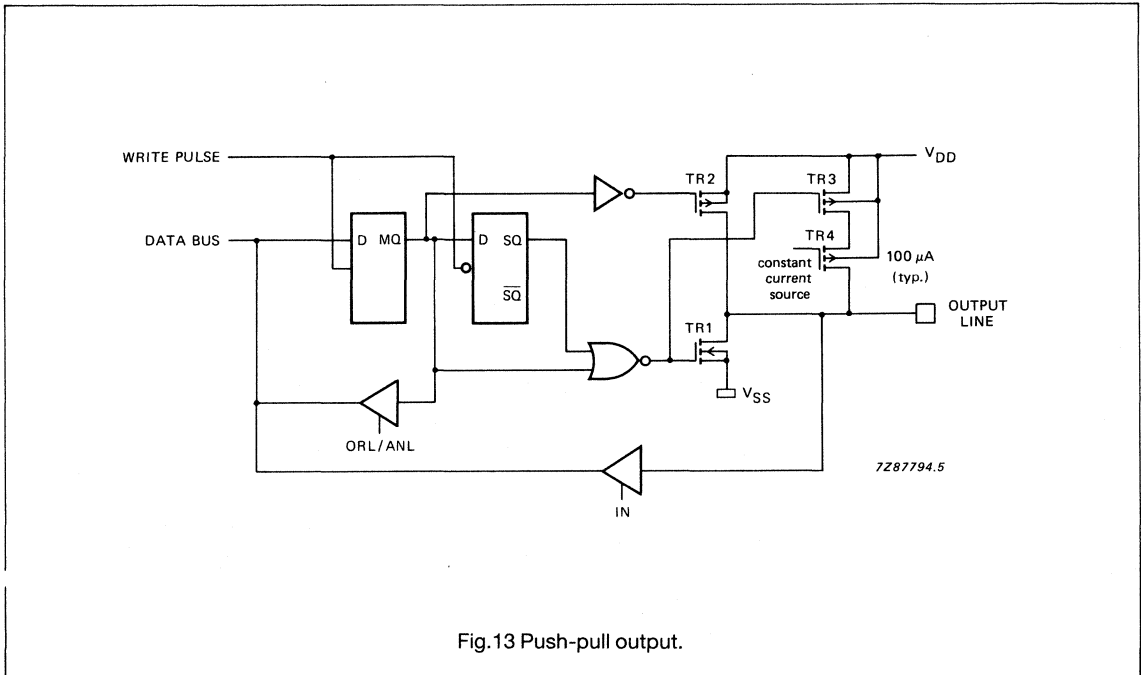

Fig. 13 Push-pull output.
- Option 3 PUSH-PULL OUTPUT; drive capability of the output will be 1.5 mA (typical) at $V_{DD} = 3$ V in both polarities. To avoid a large current flowing through the output transistors during the input mode, these push-pull pins must only be used as outputs (Fig.13).